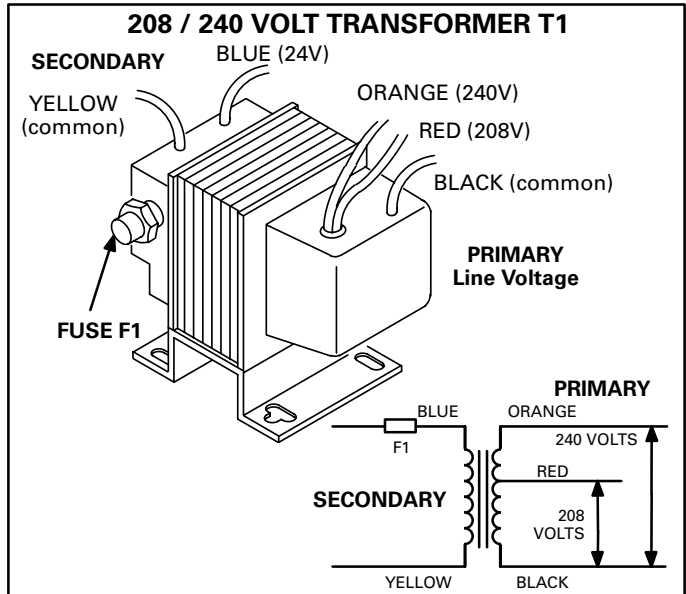

FIGURE 2
All CHA24 series units use a single line voltage to 24VAC transformer mounted in the control box. The transformer supplies power to control circuits in the unit. Transformers are rated at 70VA. 208/240 (P) voltage transformers use two primary voltage taps as shown in figure 2.
Control transformers in all units are equipped with internal secondary voltage overcurrent protection. Figure 2 shows the transformer used in 208/240V units. The fuse may be accessed outside the transformer and is rated at 3.5A for all 70 VA transformers. A spare fuse is taped to the control box.